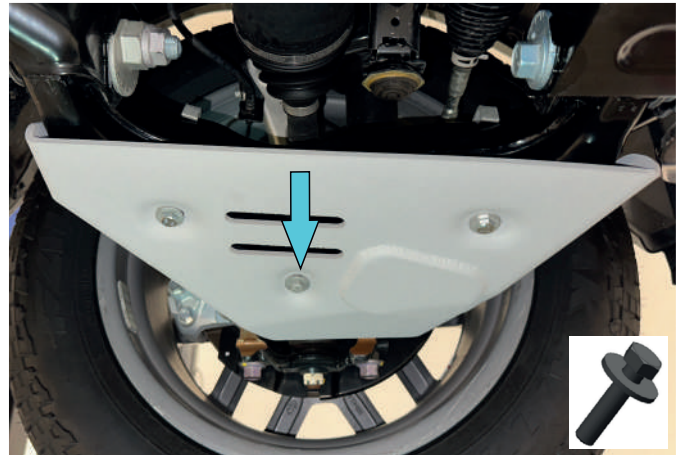

Fig. 2
2. Secure the left skid plate (item 1) using M8x25 bolt with M8 washer, as shown in fig. 2.